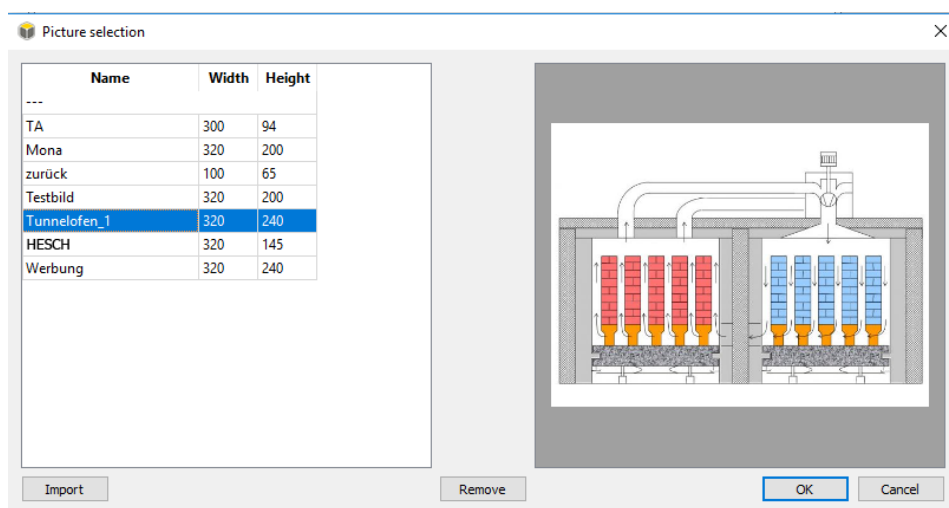

Figure 56 Diagram import window
Fig. 56 shows two of the special functions and the representation of the hydrograph in the simulation.
- The "Picture" element is used to display images that must be imported into the EasyTool MFC. jpg, png and bmp formats are supported. The import as well as the selection of already imported images is done via the parameters "Image 1" and "Image 2". After selecting the image selection (button with three dots ) , an import menu appears (see Figure 56). After selecting the import function, a standard file browser dialog is displayed. The graphic can now be searched for and imported here. The graphic is then displayed in the import window and can be selected. The image element also supports these functions: